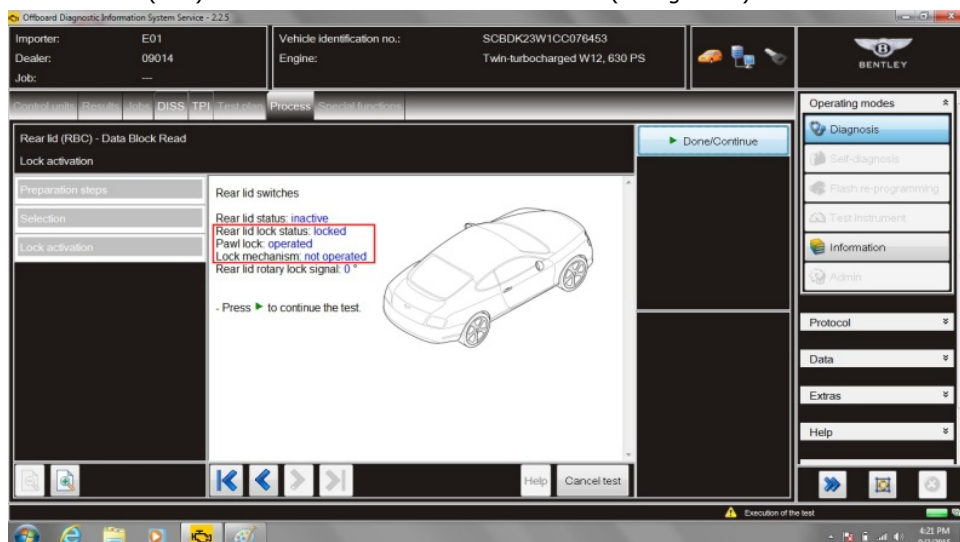

Figure 21
- The correct status for the boot lid micro switch assembly in the closed position is highlighted in Figure 21